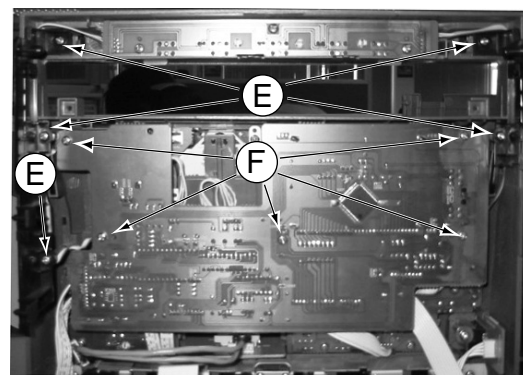

Figure 7
- 1) Loosen 5 screws ' E ' to remove the Bracket CDC Right as shown in figure 7.
- 2) Loosen 5 screws ' F ' to remove the KEY board figure 7.